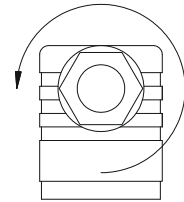

Fig. 5.2.3
- ✚ Loosen the screwed cable gland ⑤ M16x1,5 (→ Fig. 5.2.3).